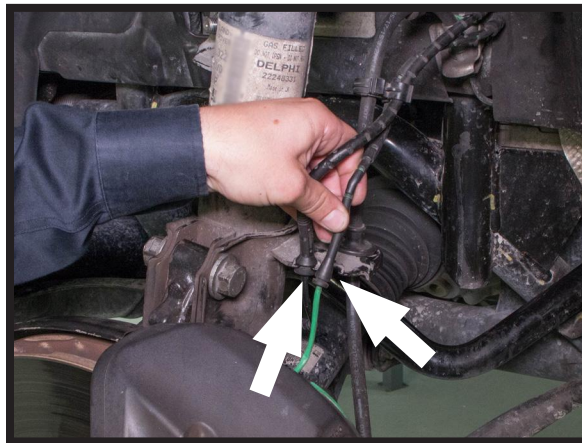

FIGURE 3
6. REMOVE THE BRAKE HOSE AND ABS SENSOR WIRE FROM THE RETENTION BRACKET ON THE STRUT. (FIGURE 3)